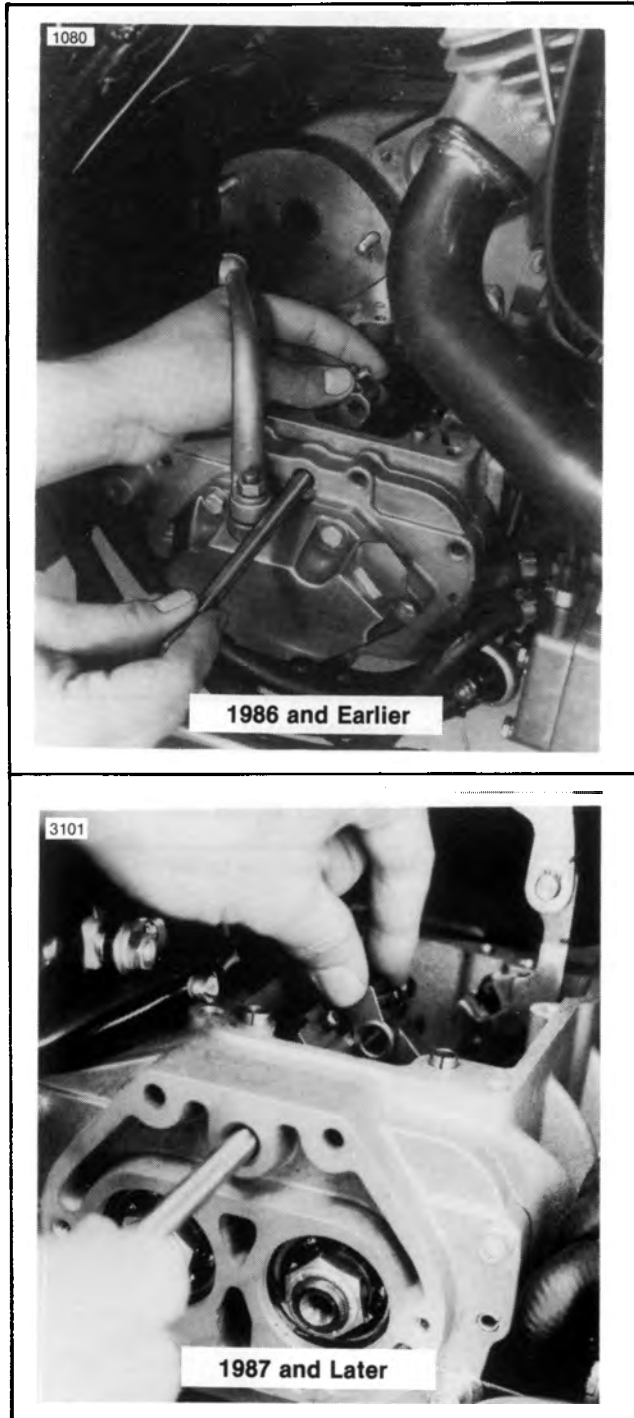

Figure 7-8. Fork and Fork Shaft Removal
2. See Figure 7-8. On 1986 and earlier motorcycles, remove the plug located on the right side of the transmission.